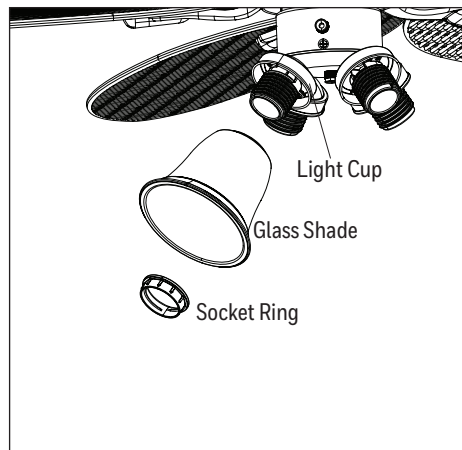

Figure 5.8
- Lift the glass shades into the light cup. Secure the glass by reinstalling the socket rings (Figure 5.8).